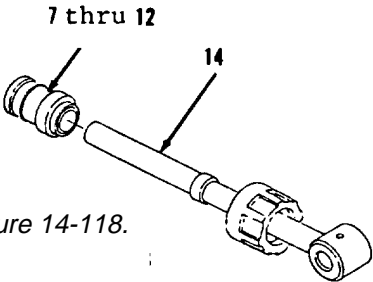

Figure 14-118.
5. Remove items 7 thru 12 as an assembly from rod (14, Figure 14-118).